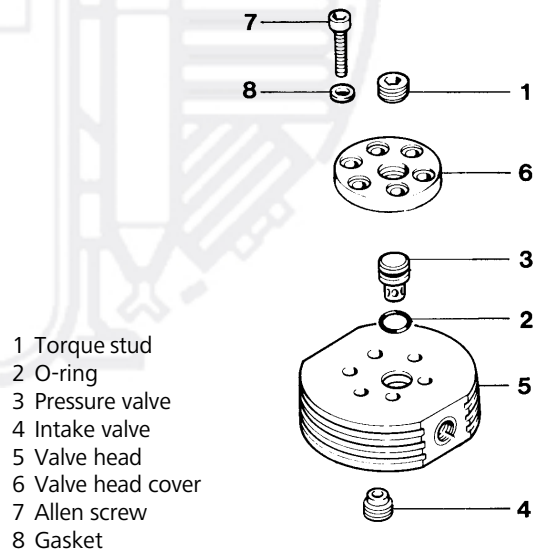
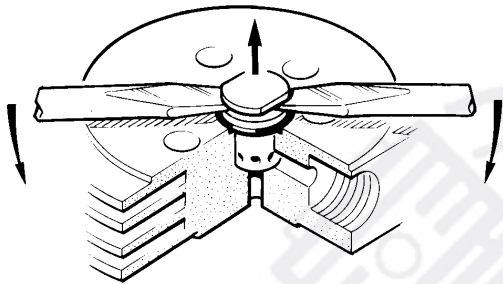

Abb. 38 Valve head 3rd stage
Abb. 39 Removal of 3rd stage pressure valve
- Remove two captive nuts (1) and spring-washers (2).
- Remove plate (3).
- Remove valves (4) and (7) using two screw-drivers as shown in Abb. 39.
- Assemble in reverse sequence. Position spring-washers with curved side facing upwards. Fasten nuts so that plate (3) is parallel to the valve head. Torque with 10 Nm (1 kpm).
On this valve head, the valves are arranged on the upper and lower side due to the small diameter of the 3rd stage, see Abb. 38.
- Remove 3rd stage pressure valve (3) according to Abb. 38.
- Unwind torque stud (1) a couple of turns.
- Remove allen screws (7), take off valve head cover (6).
- Put two screwdrivers into the groove of pressure valve body (Abb. 39). If necessary turn valve loose at first using a 13 mm spanner on the flat surfaces.
- Lift out pressure valve (3) together with O-ring (2).